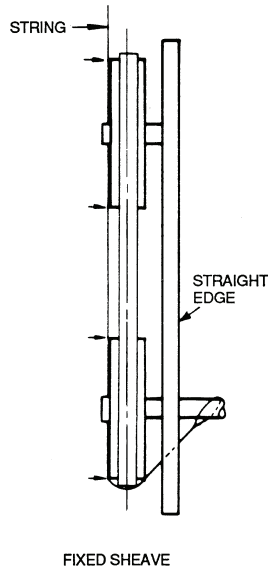

Fig. 24 — Sheave Alignment
1. To check the location of the fixed sheaves on the shafts, use a straightedge or a piece of string. If the sheaves are properly aligned, the string will touch them at the points indicated by the arrows in Fig. 24. Rotate each sheave a half revolution to determine whether the sheave is wobbly or the drive shaft is bent. Correct any misalignment.